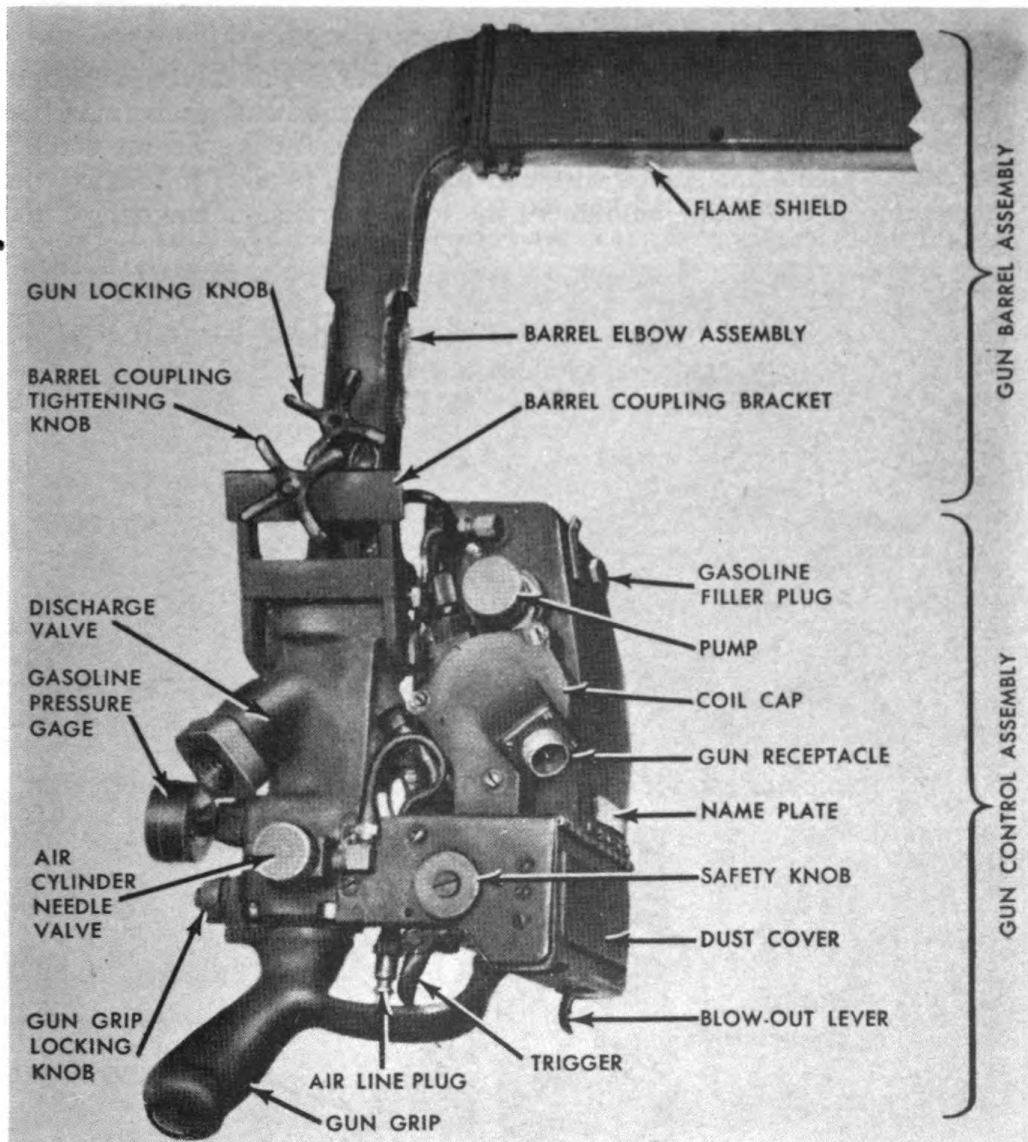
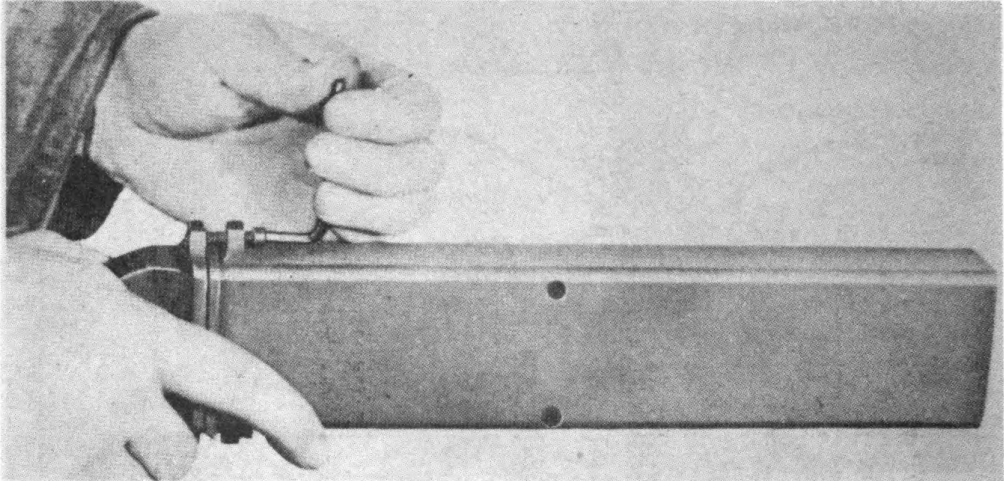

Fig. 61. Mechanized flame thrower gun E6R3.
Fig. 62. Removing cap screws preparatory to removal of flame shield.
- a. General. The gun barrel assembly (figs. 61 and 64) consists of the flame shield, barrel elbow assembly, fuel nozzle assembly, atomizer assembly, and the spark plug and connections.
a. General. (1) This shield consists of a rectangular steel tube with a flange at one end. The flange has a lug on the top and bottom which is drilled to receive the cap screws. These screws engage the threads in the holes in the flange of the barrel elbow, securing the shield to the barrel elbow. A gasket is located between the two flanges. At various points on the shield, holes are drilled which serve to supply air to the ignition flame. The shield protects front of gun and also prevents wind from extinguishing ignition flame.
b. Removal and installation. (1) To remove the shield from the barrel assembly, remove the two cap screws in the flange, using a socket head wrench (fig. 62), and slide off the shield and gasket.
(2) To install the shield, reverse procedure in (1) above.
a. General. This assembly (fig. 61) consists of a fuel tube protected by a steel housing. In addition to the fuel tube, the housing contains the air and gasoline lines and the spark plug cable. At the nozzle end of the barrel elbow is a flange with two lugs which is used in making the connection to the flame shield. At the lower portion of the barrel el-